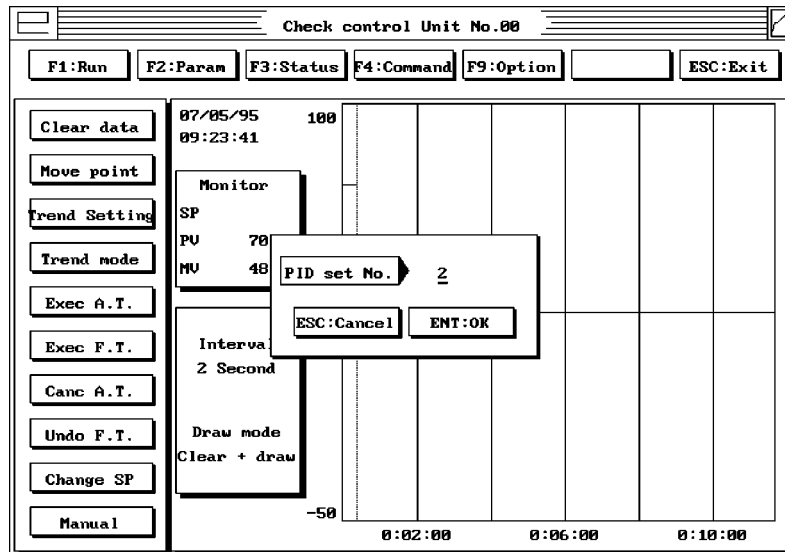

Figure 12
6. A new pop-up window will appear (Figure 12). Enter the number of the PID bank you wish to Autotune.